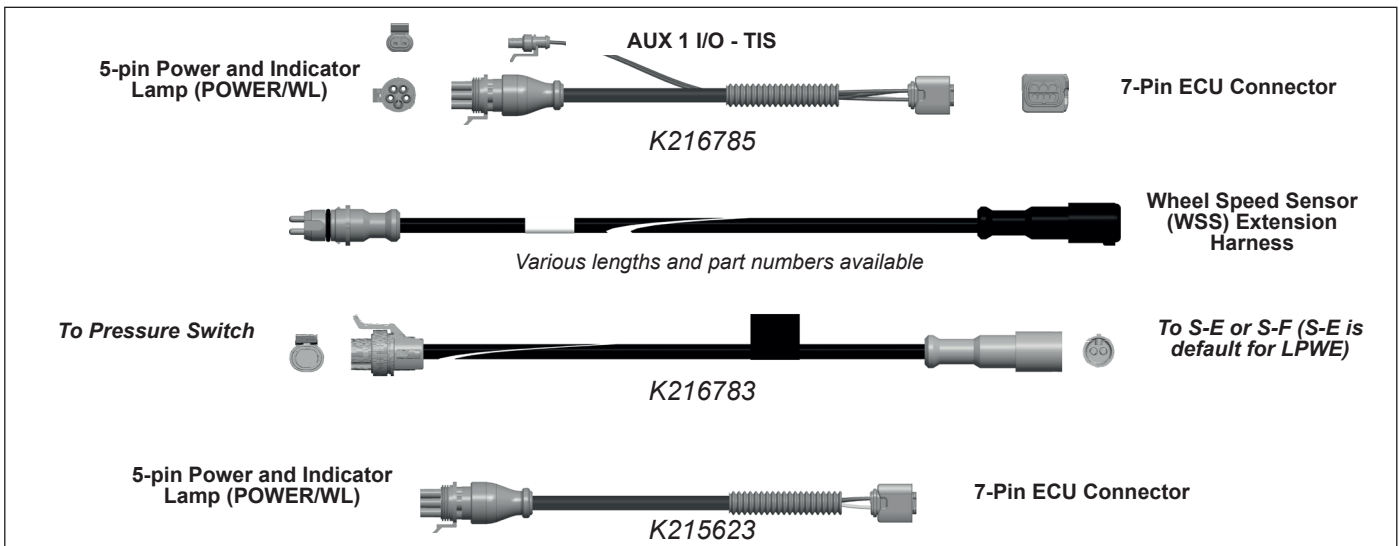

Figure 5 – Examples of Wiring Harnesses
- **5-pin Power Harness:** See Figure 5. A power harness is required. Variations that include auxiliary sub-harnesses are available as needed.
- **Frame (Chassis) Mount:** The TABS-8 Advanced Module provides through-holes for frame mounting directly to the trailer frame rail or cross-member. It is recommended to use two (2) grade 5³/₈-in. 16 bolts, typical length of 5 in., torqued to 180 - 220 in-lbs (20 - 25 N•m).
See Figure 5. Pigtail wiring harnesses are available to connect the TABS-8 Advanced Module with the ABS and other trailer system components. Pigtail harnesses are weather-sealed at the connector interface and are clearly labeled for proper installation. Because of the over-molded design of the TABS-8 Advanced Module wiring harnesses, Bendix recommends the complete harness be replaced if damage or corrosion occurs.
See Figure 5. TABS-8 Advanced Module ECU connectors use a 7-pin TE Connectivity™ HDCS connector for brake light power, constant power, the trailer-mounted ABS indicator lamp, ground, and – depending on the harness version – it may include the AUX 1 I/O. Note that some parts may be pre-configured with auxiliary features on the AUX 1 I/O and S-E/S-F inputs that may require additional harnessing as shown in Figure 5.
The Bendix® TABS-8™ Advanced Module pigtail uses a TTMA RP 7-99 5-pin Packard® Weather Pack connector for brake light power, constant power, ground, and the trailer-mounted Antilock Braking System (ABS) indicator lamp. See Figure 5.